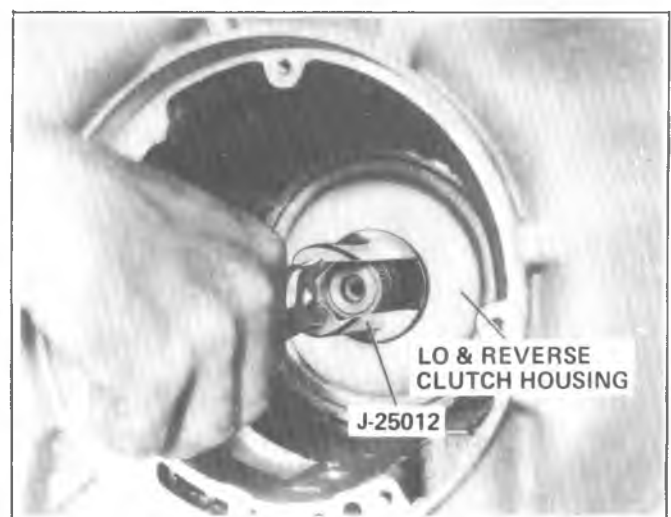

Fig. 7A-83A--Installing Low and Reverse Clutch Housing
8. Compress retainer and install snap ring (Fig. 7A-76A).